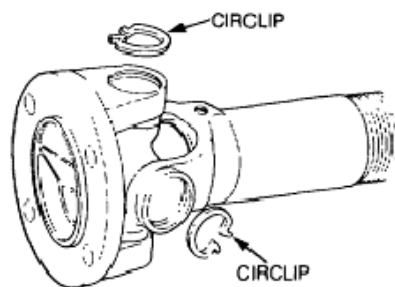

Figure 77 Circlip Removal
- a. Clean the area around the universal joint and remove the circlips (Figure 77).